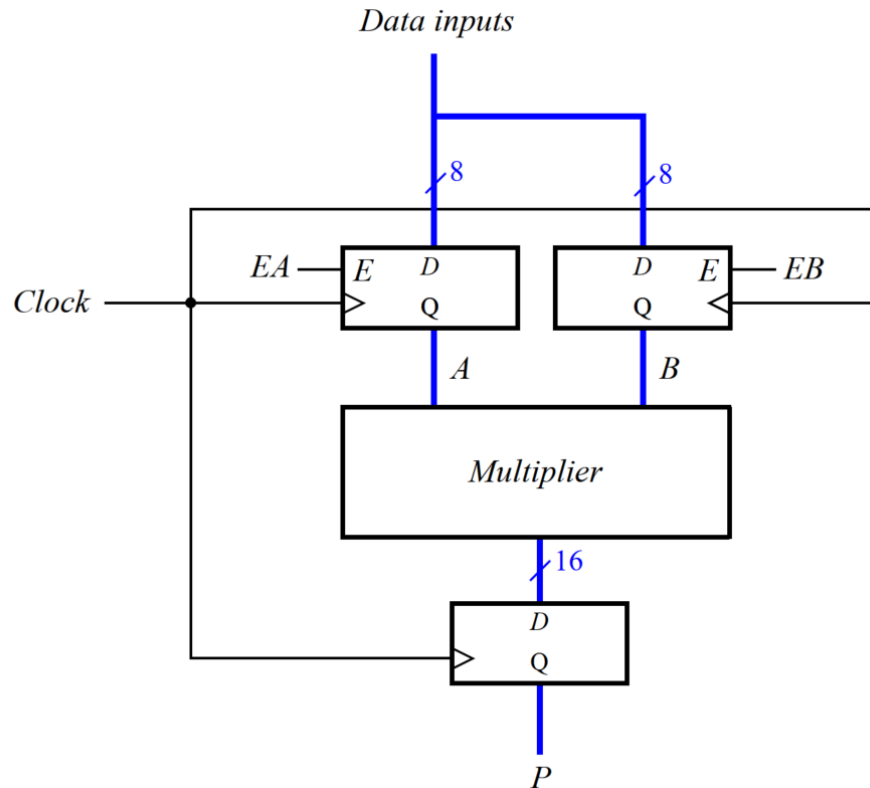

Figure 2: A registered multiplier circuit.
**Requirement:** The circuit in Figure 2 shows an 8 x 8 multiplier circuit with registered inputs and outputs. Write System Verilog code to implement this system.
- In exercise 2, pre lab 3, you have write the multiplier. Write System Verilog module that instantiates the instances of this multiplier and three registers to describe the circuit given in Figure 2.